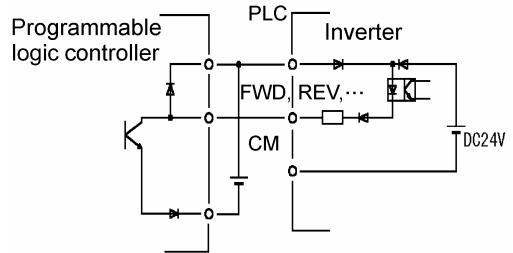

Figure 2-3-12
- 1) The digital input terminals such as FWD, REV, and X1-X9 are generally turned on/off between the CM terminal. If turned on/off using an external power source and open collector outputs from the programmable logic controller, the terminals may malfunction due to current leak from the external power source. In this case, connect the external power source using the PLC terminal as shown in Figure 2-3-12.